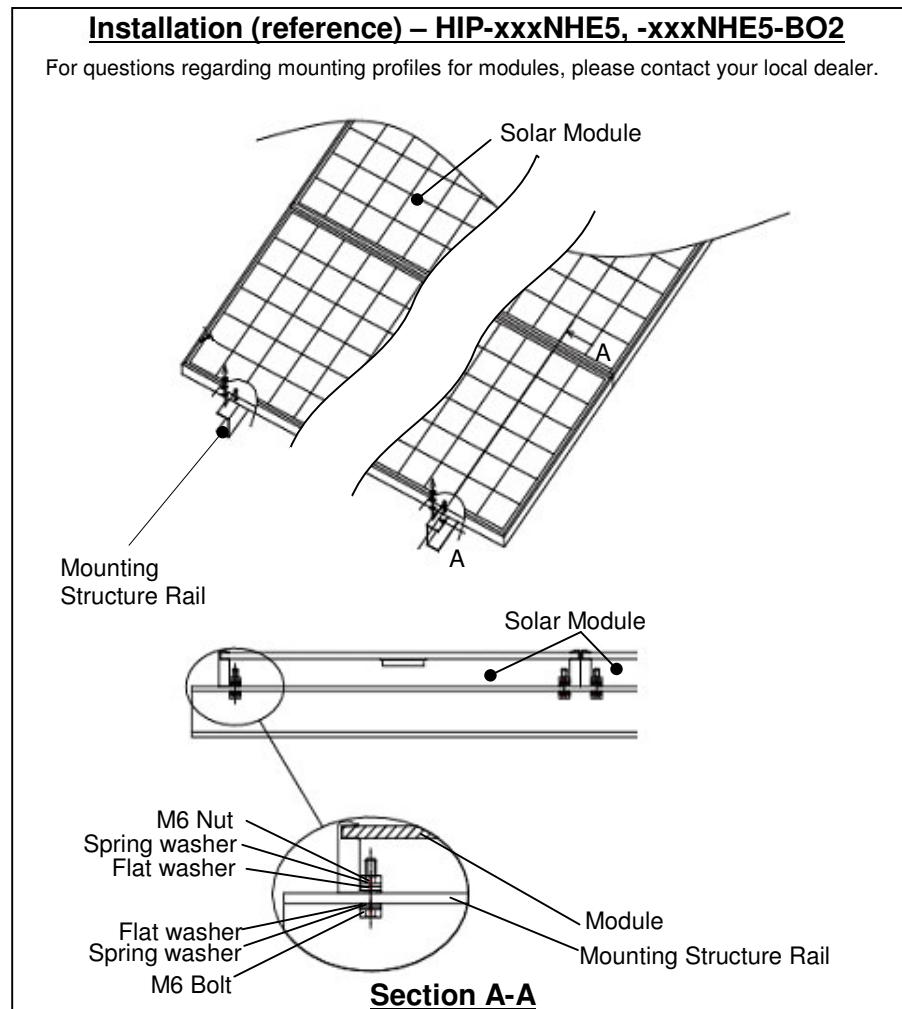
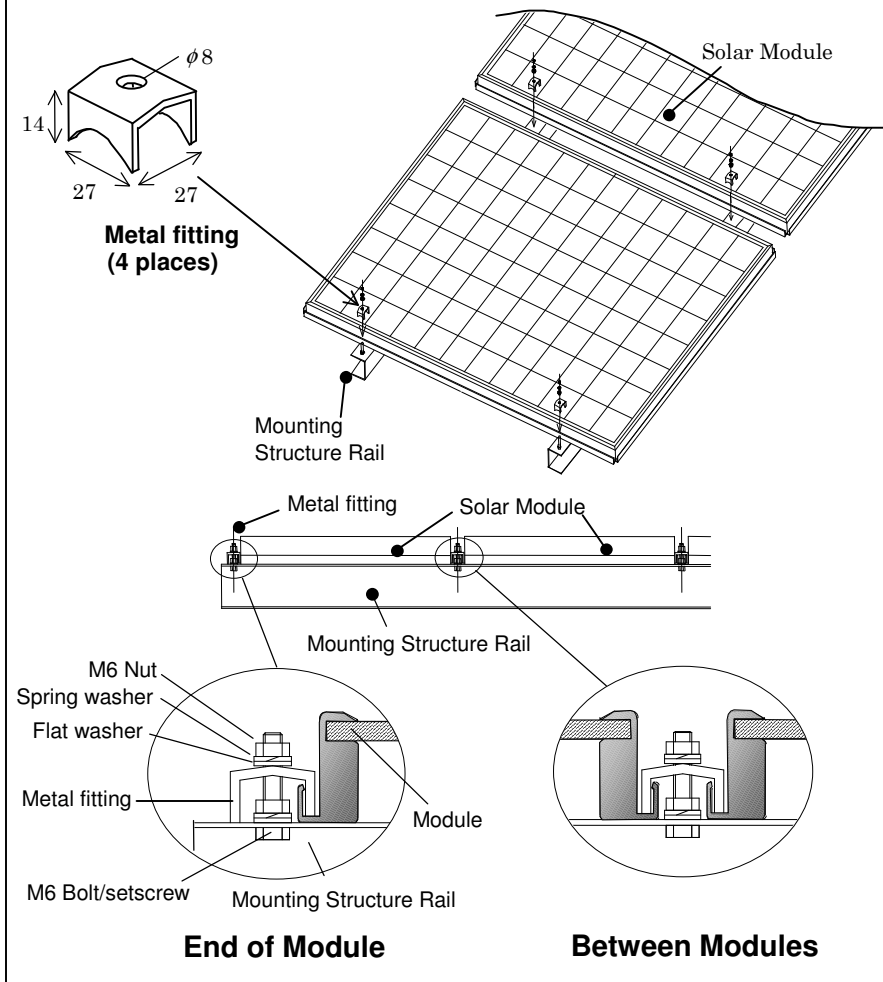

Figure1-1 : Installation
Figure1-2 : Installation
- We recommend installation methods shown in Fig1-1 (HIP-xxxNHE5, xxxNHE5-BO2) and Fig1-2 (HIP-xxxBE11, xxxBE11-BO2). In some areas, local electrical and building codes may govern the installation and use of PV modules.
The modules should be mounted at the 4 or more points as shown in Fig1-1 , Fig1-2 , Fig2-1 , Fig2-2 . Then, a maximum loading of 2400N/m² (50PSF, in static state) on the module surface is possible.